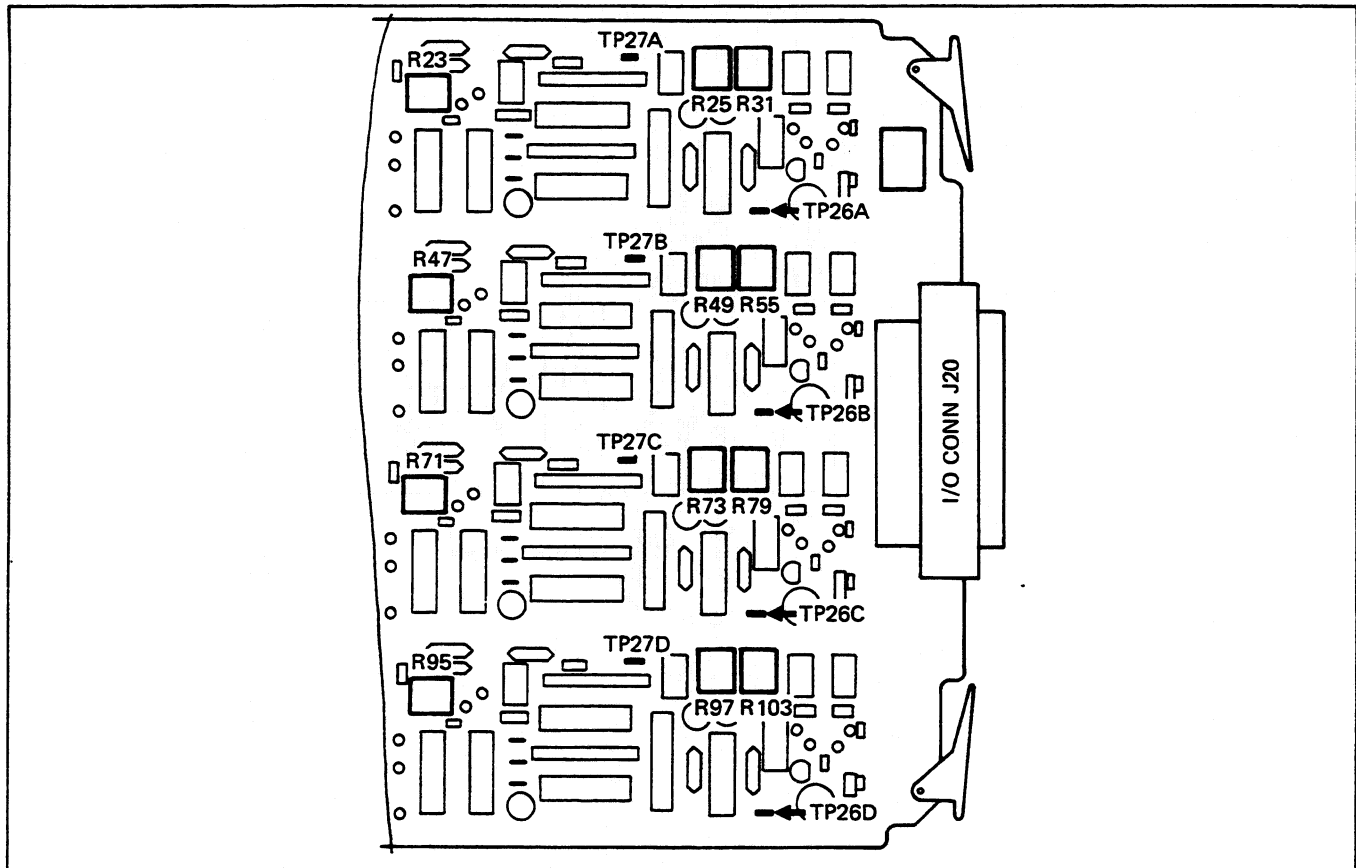

Figure 011-7. Calibration Potentiometers and Test Points
5. Connect the digital multimeter (DMM) input leads to the appropriate ZERO test points listed in Table 011-2 for the channel being calibrated (refer to Figure 011-7 for calibration potentiometers and test points). Adjust the corresponding ZERO potentiometer for a DMM indication of $0.00\text{ mV} \pm 0.05\text{ mV}$.